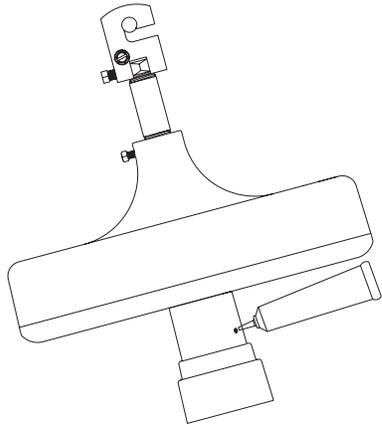

Figure 10
3. Cut the tip off the tube, tilt the fan motor as shown and place the tube into the oil hole of the switch housing. See Figure 10.